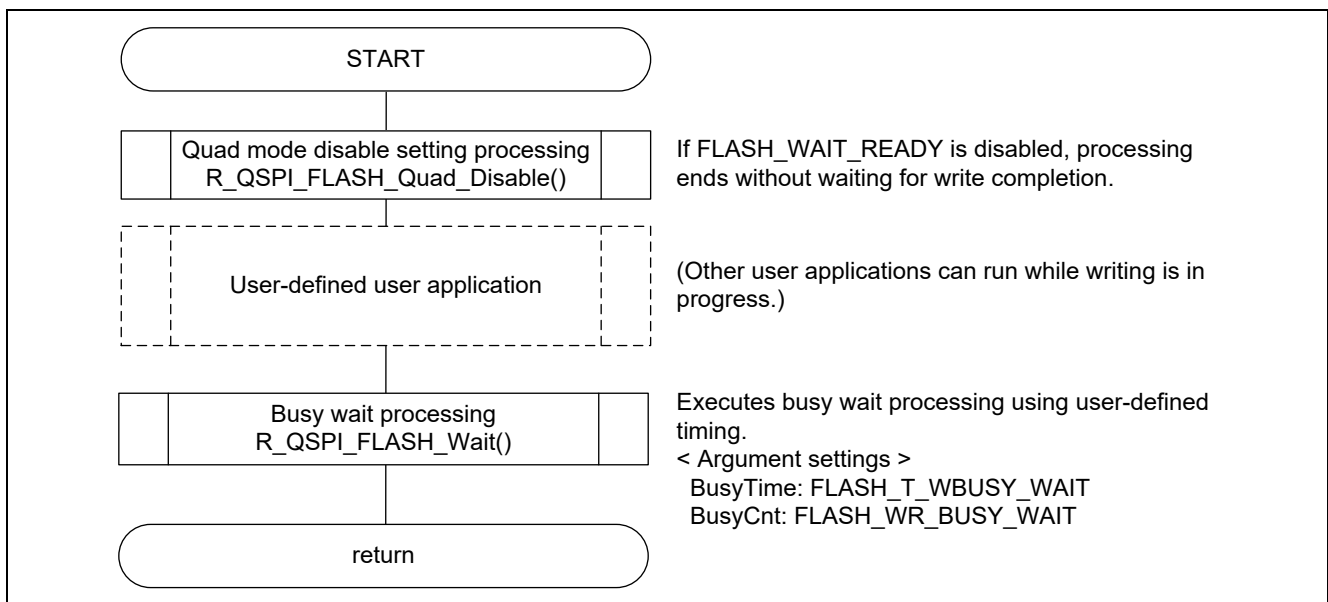

Figure 5.19 Waiting for Quad Mode Disable Setting to Finish Using R\_QSPI\_FLASH\_Wait()
Description	<ul style="list-style-type: none"> <li>• Clears the quad enable (QE) bit in the status register to 0 to enable quad mode.</li> <li>• After processing finishes, read the status register to confirm the setting of the QE bit.</li> <li>• The quad enable (QE) bit is non-volatile. To disable quad mode after it has been enabled once, run this function.</li> <li>• There are two methods of waiting for the write to finish. These are shown below. Note that the next processing (write, read, erase, etc.) should be run after confirming that the write has finished. <ul style="list-style-type: none"> <li>&lt; Using this user API to wait for the write to finish &gt; Enable FLASH_WAIT_READY in r_qspi_flash_mx25l.h.</li> <li>&lt; Not using this user API to wait for the write to finish &gt; Disable FLASH_WAIT_READY in r_qspi_flash_mx25l.h, and call R_QSPI_FLASH_Wait() after processing by this user API has finished. This processing method allows you to perform write-end wait confirmation at any time you wish. Refer to figure 5.19 for instructions.</li> </ul> </li> </ul>